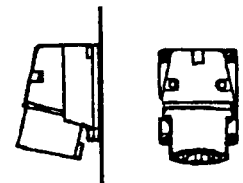

Figure 18 CEE male connector.
- 132** CEE17-connector 32 A, 380-415 V, 3p + PE (see Figure 18).
- 133** 32 A, 380-415 V, 3p + N + PE (see Figure 18).